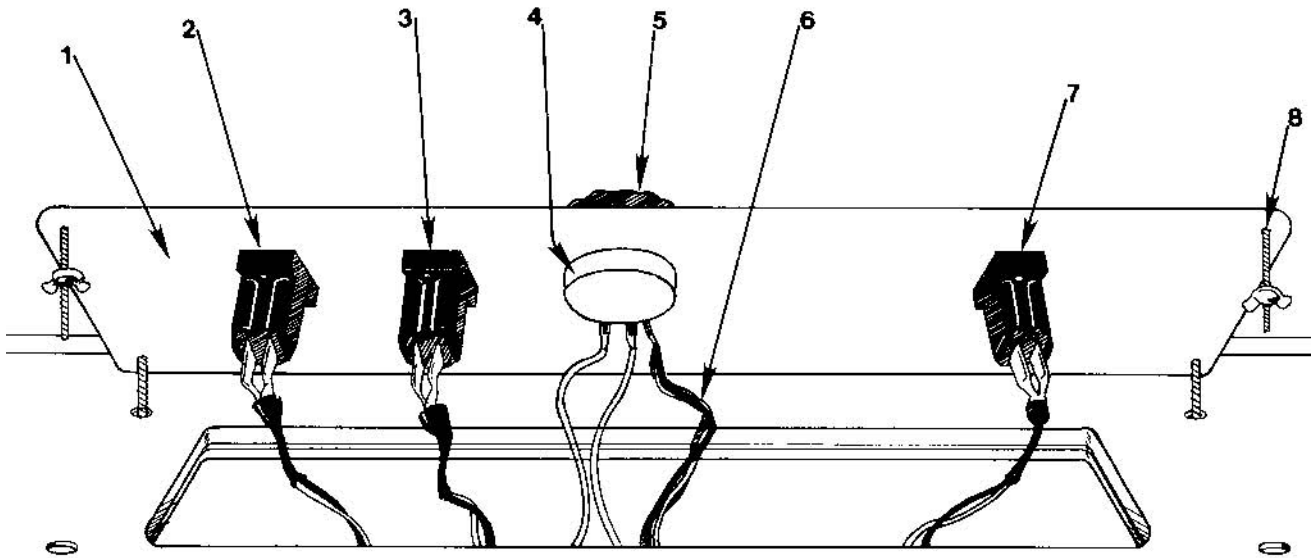

Figure 4: Control Panel
RIPCORD has three switch selectable options. These are controlled by a seven segment DIP switch located on the main logic board at position 14A (see Figure 4, item 8). This switch is accessible from the front of the game through the coin door.
A. RIPCORDER Control Panel (see Figure 4)